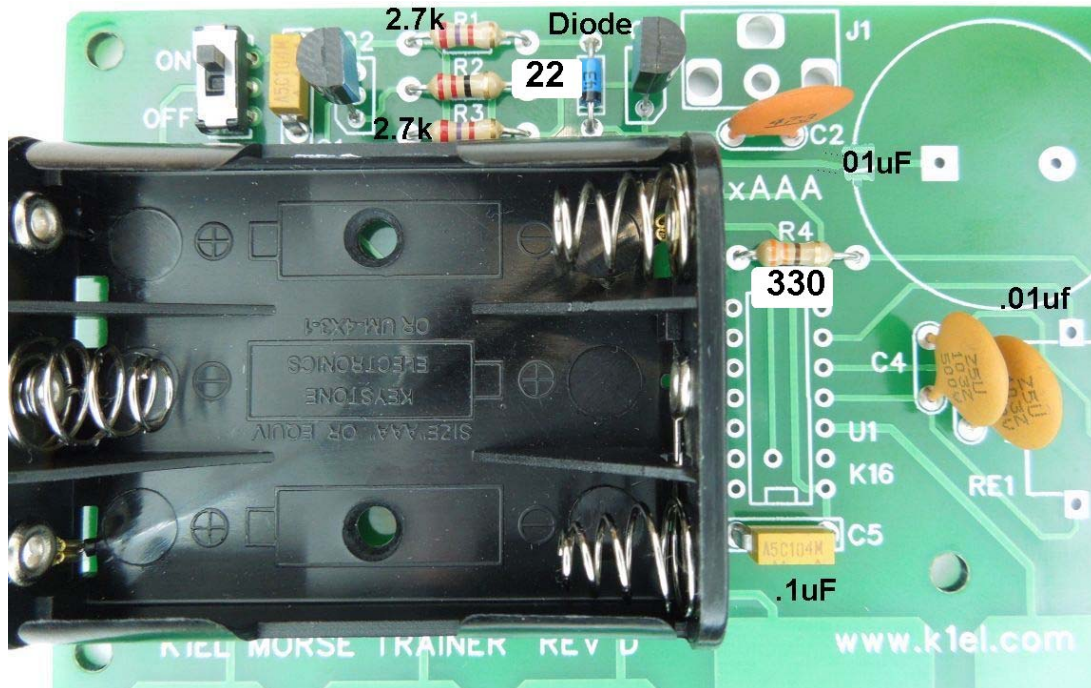

Figure 5 – Resistors, diode, and capacitors installed
- ___ Using figure 5 on page 6, install and solder all four resistors. Color codes are listed in the parts inventory on page 5. Verifying resistor values with an ohmmeter before installing them is recommended